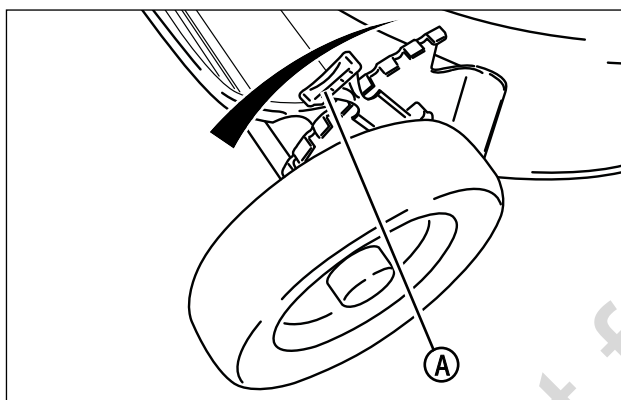

Figure 6: Adjusting cutting height
1. Pull the height adjusting latch (A, Figure 6) outward and move to the desired cutting height.